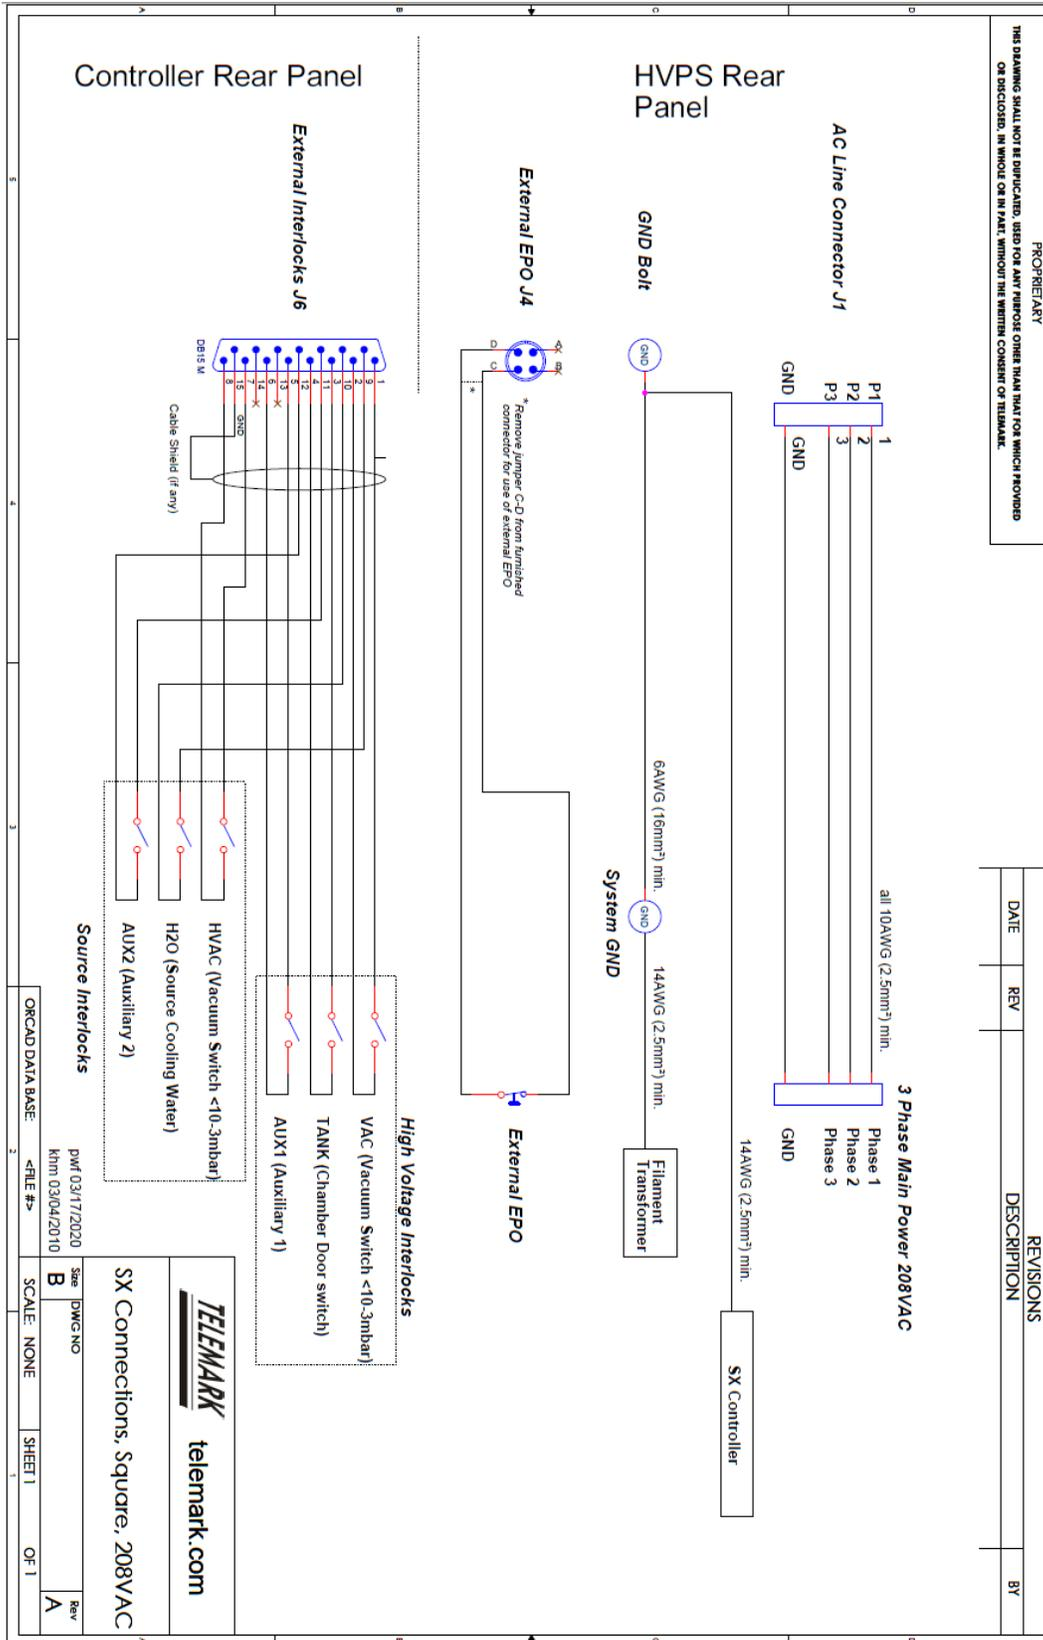

Figure 9-3, , Connections SX series 208VAC Square Version
- Figure 9-3 Connections SX-4/6/8/10/12, Square Connector, 208VAC